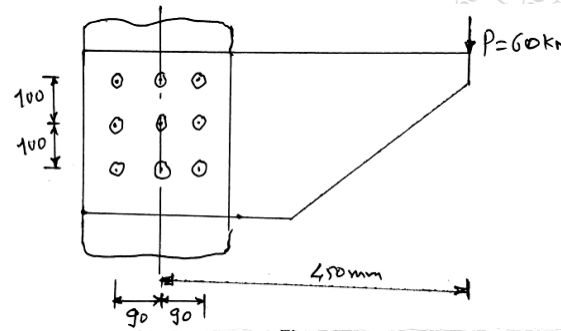

Figure 2.
Q.8 A bracket as shown in figure 2 is to carry a load of 60KN . Determine the size of the rivet if the shear stress is not to exceed 50Mpa. Assume all rivets of the same size. 13